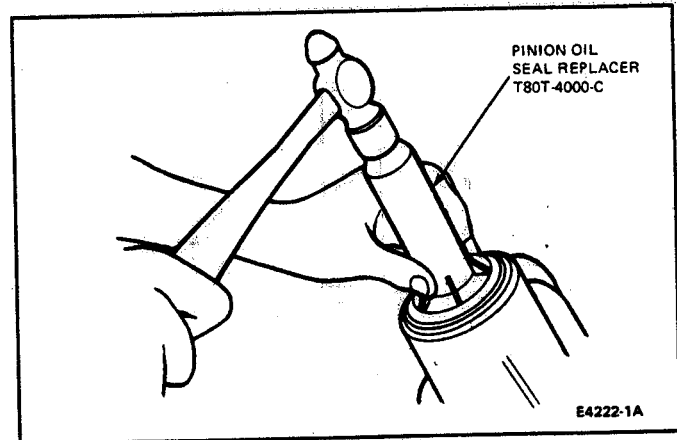

FIG. 36 Pinion Oil Seal Installation
9. Coat the oil seal with Hypoid Gear Lubricant, C6AZ-19580-E (ESW-M2C105-A) or equivalent. Install the drive pinion oil seal with T80T-4000-C, Oil Seal Replacer (Fig. 36). After installation, make sure the garter spring didn't pop out. If the garter spring pops out, remove and replace the seal.